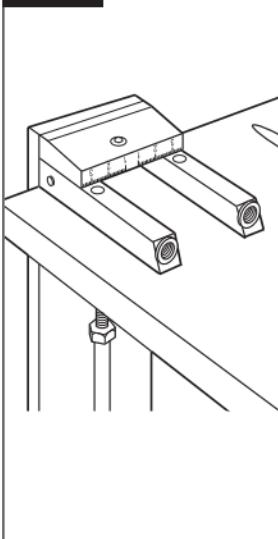

Fig. 2
- Setting pocket hole centres - (**Fig. 2**)